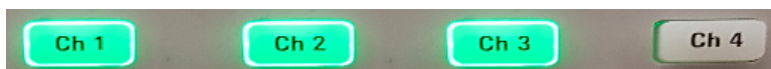

Figure 5-1: Ch 1, Ch 2, and Ch 3 keys illuminate when selected
3. Press the required channel key ([Ch 1], [Ch 2], [Ch 3] or [Ch 4]) on the front panel. The selected channel key is illuminated. See Figure 5-1.